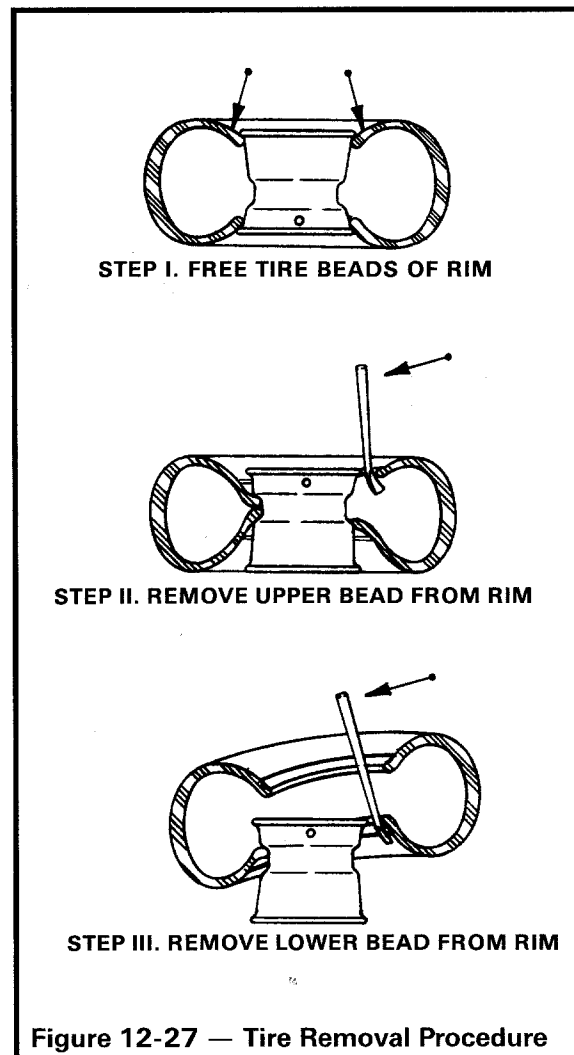

Figure 12-27 — Tire Removal Procedure
3. If tire machine is unavailable, loosen both tire beads by applying pressure to tire side walls. Step 1, (Figure 12-27).
5. With valve stem side up, carefully start upper bead over edge of wheel rim with tire tool. Step II, (Figure 12-27).
6. When top bead is free of rim, shift lower bead into rim well on one side of wheel and insert tire tool on opposite side. Pry lower bead over rim flange. Step III, (Figure 12-27).